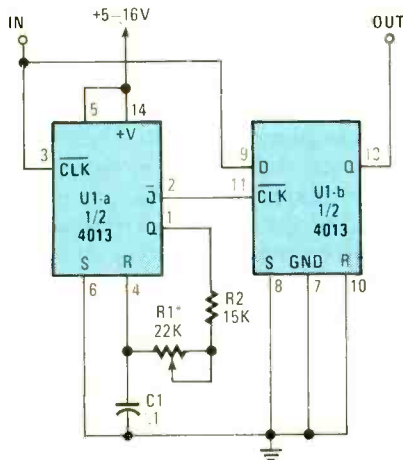

Fig. 4. The duty-cycle detector—consisting of a single 4013 D flip-flop and three support components—can detect 1- to 2-microsecond pulses.
**Duty-Cycle Detector.** This circuit (See Fig. 4) looks at the time an incoming signal is high. If the incoming pulse is shorter than the adjusted pulse, the output of the second flip-flop will go high. With the values indicated in the schematic, you'll be able to detect 1- to 2-microsecond pulses.